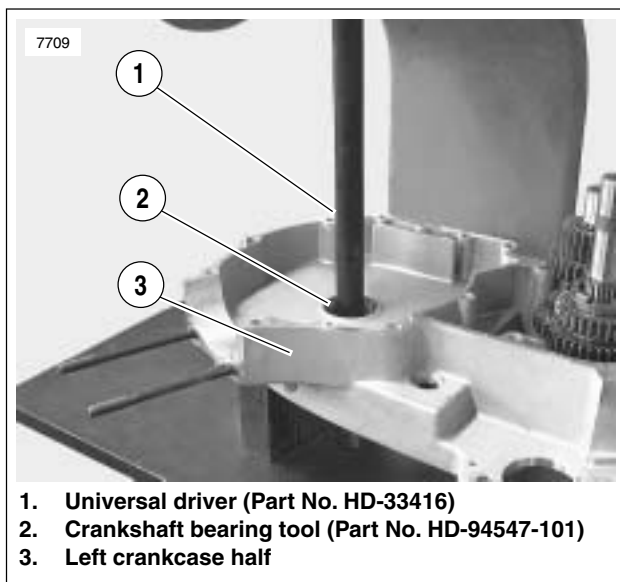

Figure 3-114. Sprocket Outer Shaft Race Removal
12. See Figure 3-114. Use CRANKSHAFT BEARING TOOL (Part No. HD-94547-101) to remove sprocket shaft outer races.